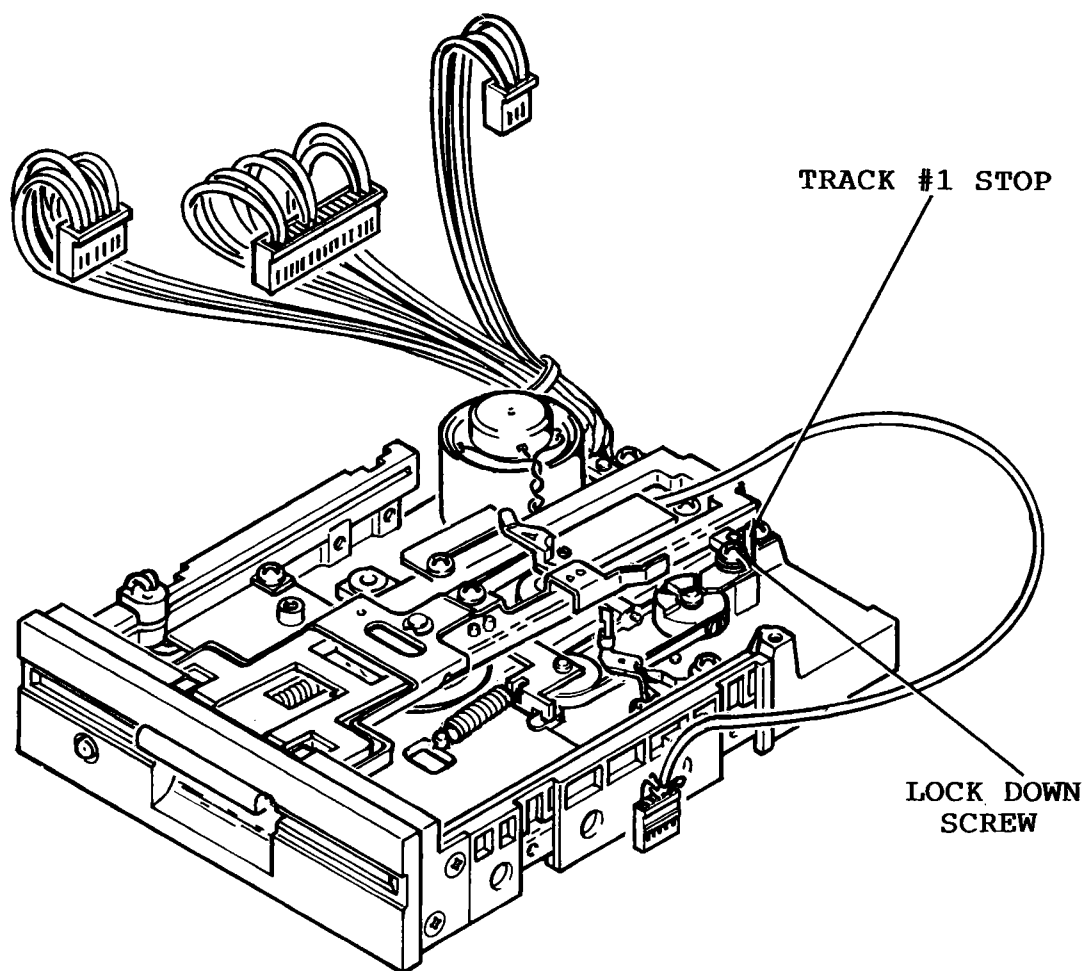

Figure 5-2. Track #1 Stop Adjustment.
6. Reconnect J1 to P1, J2 to P2, J5 to P5, J6 to P6 and J7 to P7 in such a manner that access is still allowed to the Track #1 Stop adjustment. (See Figure 5-2)
8. After the head settles and the Display T&S program begins displaying Track information, adjust the Track #1 Stop adjustment in the following manner (See Figure 5-2):